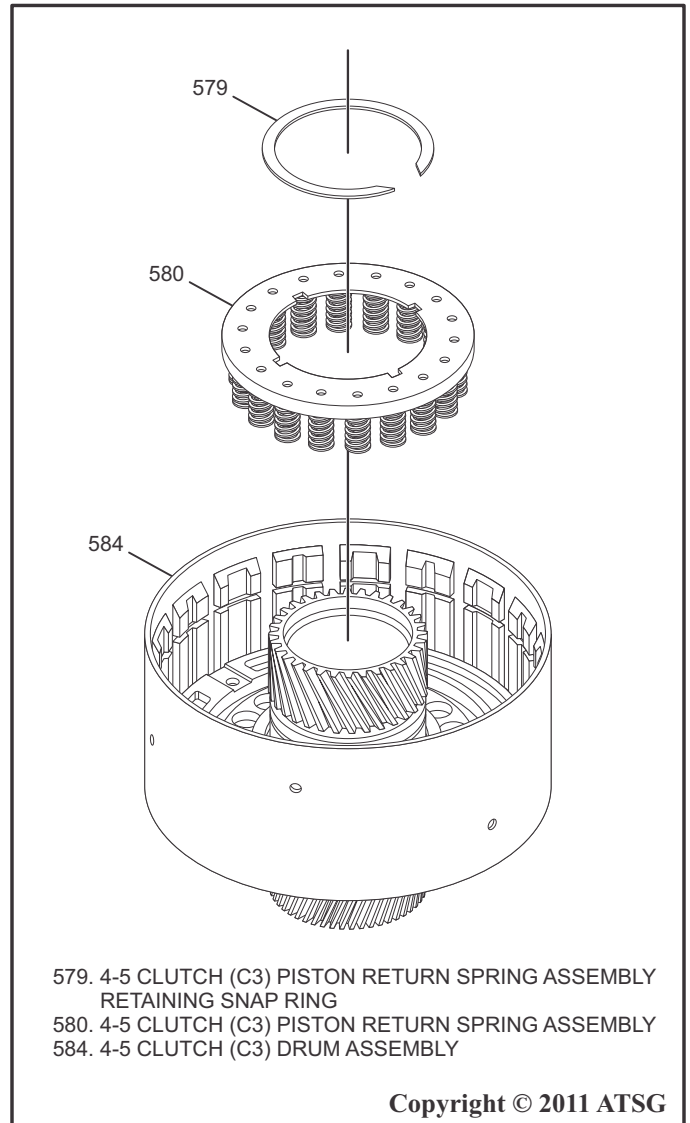

Figure 139
7. Install the 4-5 Clutch (C3) Piston Return Spring Assembly into the clutch piston as shown in Figure 139.
8. Using SST J 23327, J 25024-A, and J 45186 or similar spring compression tools, carefully compress the 4-5 Clutch (C3) Piston Return Spring and install the 4-5 Clutch (C3) Piston Return Spring Retaining Snap Ring as shown in Figure 139. Be careful not to bend the return spring assembly.